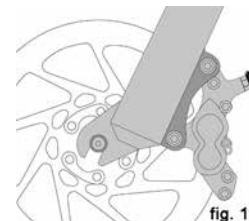
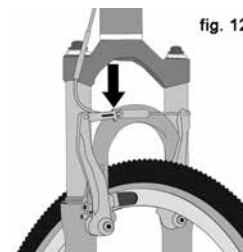

fig. 11
fig. 12
- (1) If your bike has rim brakes, disengage the brake's quick-release mechanism to increase the clearance between the tire and the brake pads (See Section 4.C fig. 11 through 15).
(2) If your bike has rim brakes, disengage the brake's quick-release mechanism to increase the clearance between the wheel rim and the brake pads (see Section 4.C, figs. 11 through 15).
(3) On a derailleur gear system, pull the derailleur body back with your right hand.
3. Some bicycle brakes, such as disc brakes (fig. 11) and linear-pull brakes (fig. 12), are extremely powerful. Take extra care in becoming familiar with these brakes and exercise particular care when using them.
Most rim brakes have some form of quick-release mechanism to allow the brake pads to clear the tire when a wheel is removed or reinstalled. When the brake quick release is in the open position, the brakes are inoperative. Ask your dealer to make sure that you understand the way the brake quick release works on your bike (see figs. 12, 13, 14 & 15) and check each time to make sure both brakes work correctly before you get on the bike.